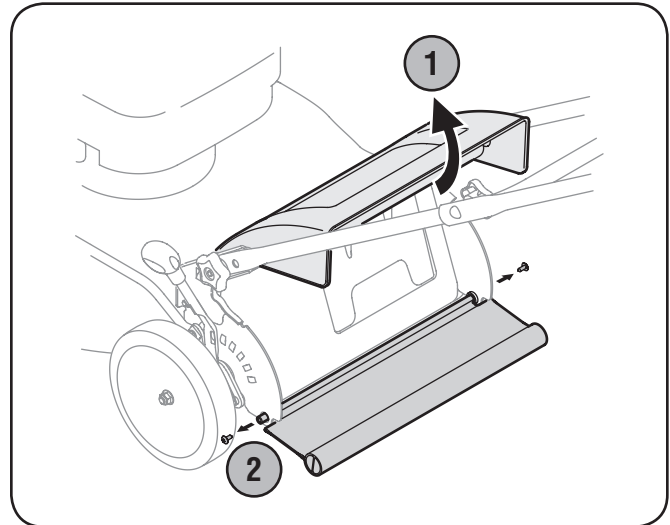

Figure 6-3
1. To remove rear flap, lift rear door, and remove screw on either side to remove from hole. See Fig. 6-3.